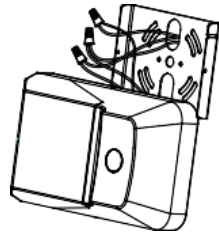

Figure 4
5. Make wiring connections using UL recognized wire nuts or other approved connectors (see Figure 4). Refer to the *Wiring Diagram* to make electrical connections.